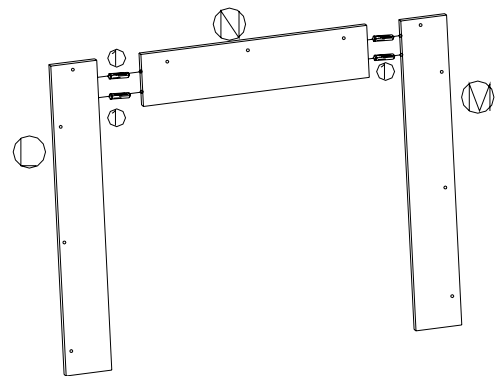

**FIGURE 5**
7. INSERT WOOD DOWELS (1), CAM-BOLTS (4) INTO PREDRILLED HOLES ON UPSIDE OF BASE (J) AND FIT INTO CORRESPONDING HOLES ON BOTTOM EDGES OF PARTS (D, E, H, I). INSERT CAM-LOCKS (2) INTO BIG HOLES ON INSIDE OF LEFT AND RIGHT SIDE PANELS (E, D) WITH SLOT FOR SCREWDRIVER FACING OUTWARD. ROTATE CAM-LOCKS (2) CLOCKWISE TO SECURE CAM-BOLTS (4). PUSH COVERS (3) INTO CAM-LOCKS (2). AS FIGURE 5 SHOWN.